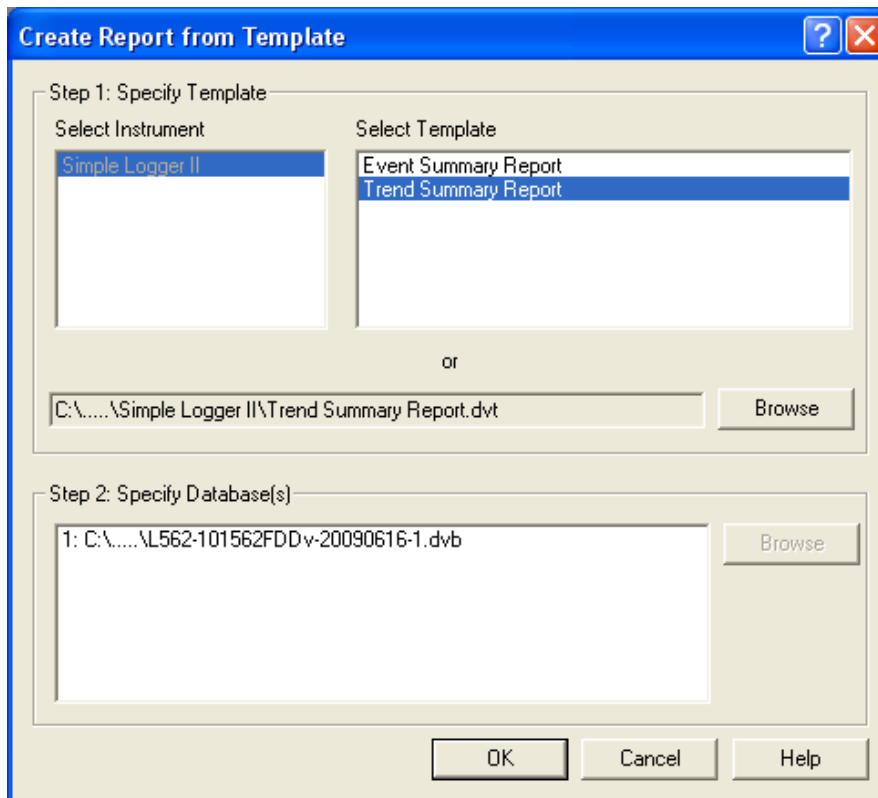

Figure 2-9
5) a "YES" reply moves the main window of DataView® to the background; its place is taken by a new help window for the definition of new plots from predefined models (see figure 2-9 below);